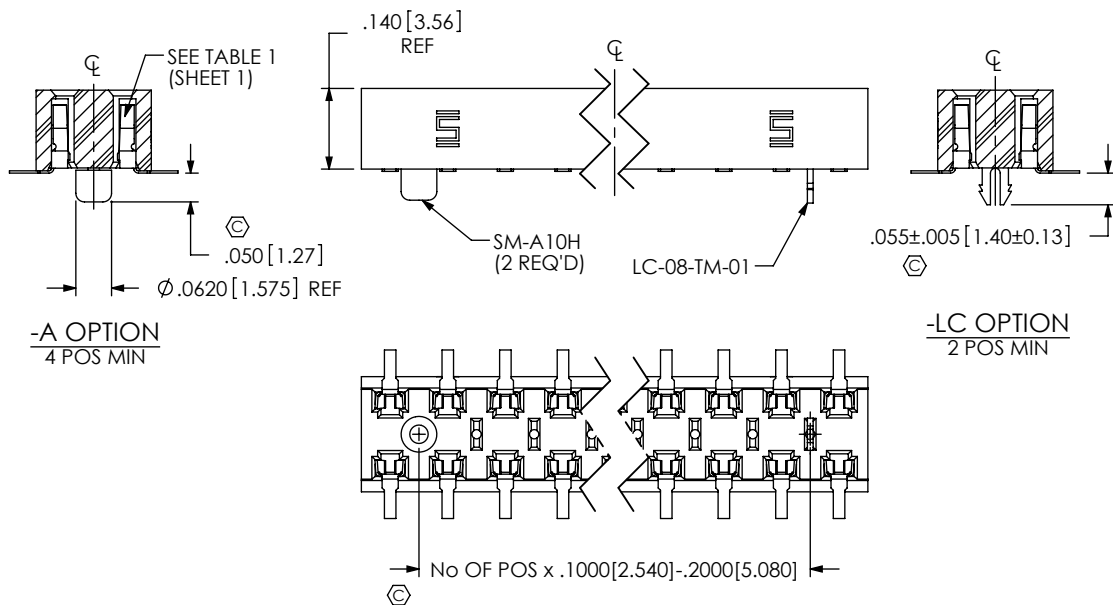

FIG 6
- A: ALIGNMENT PIN (N/A ON -PE & -TE. SEE FIG 6 & 7 SHT 2) (-4 POS MIN)
- LC: LOCKING CLIP (N/A ON -TE. SEE FIG 6 & 7 SHT 2)